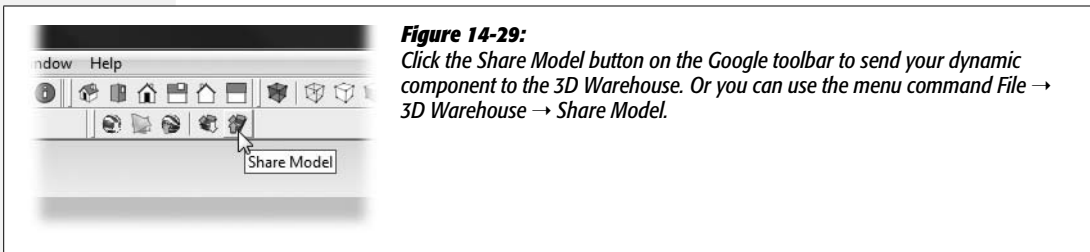

Figure 14-29:
15. In the Google toolbar, click the Share Model button (Figure 14-29), or choose File → 3D Warehouse → Share Model.